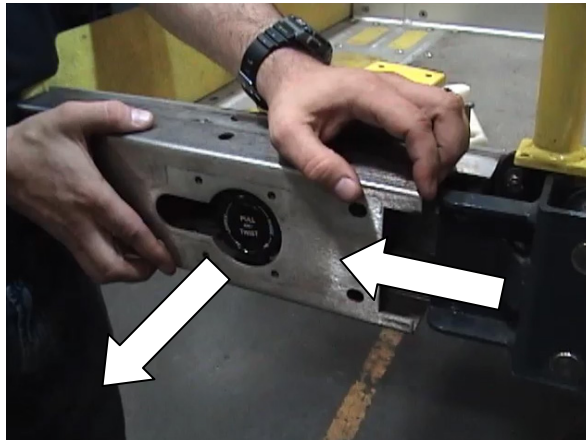

FIGURE 4-10: RH ROLLSTOP COVER
- 5) Refer to Figure 4-10. Remove RH Rollstop Cover by sliding cover forward to match hole with Manual Release Knob then carefully detach from platform.